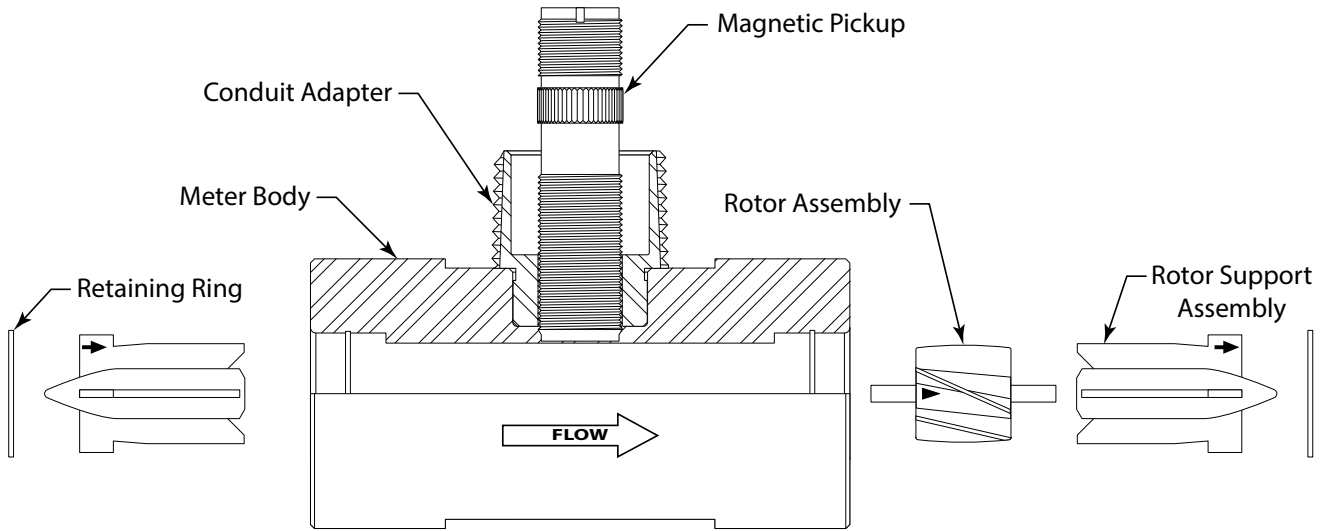
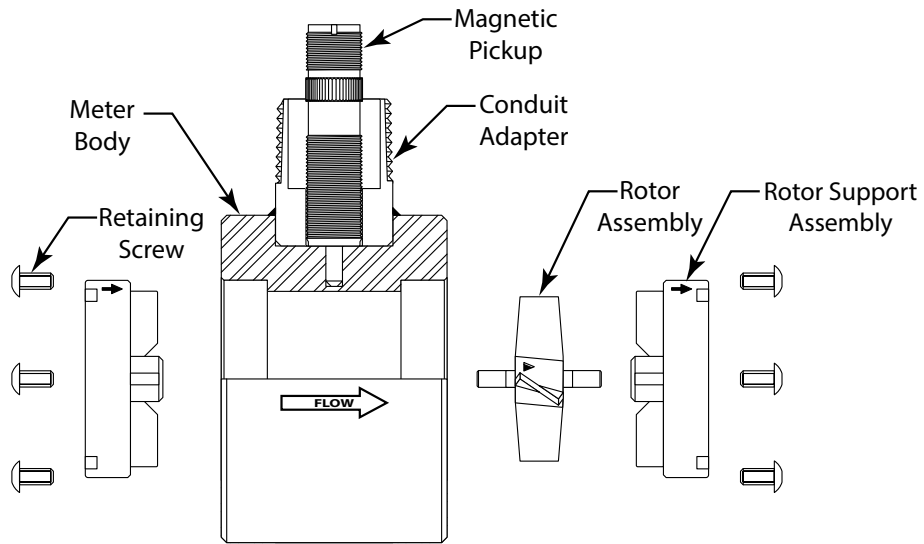

Figure 1: Relative positions of internal components for all QuikSert meter sizes B131-038 through B131-100
Figure 2: Relative positions of internal components for all QuikSert meter sizes B132-050 through B139-900
1. Refer to *Figure 1* and *Figure 2* for relative positions of repair kit components.
Figure 1 and *Figure 2* show the proper alignment and orientation of the repair kits.
NOTE: Meters 2 inches and larger will have retaining screws on both ends of the meter (see *Figure 2*).
NOTE: Meters 2 inches and larger meters will have retaining screws on both ends of the meter (see *Figure 2*).